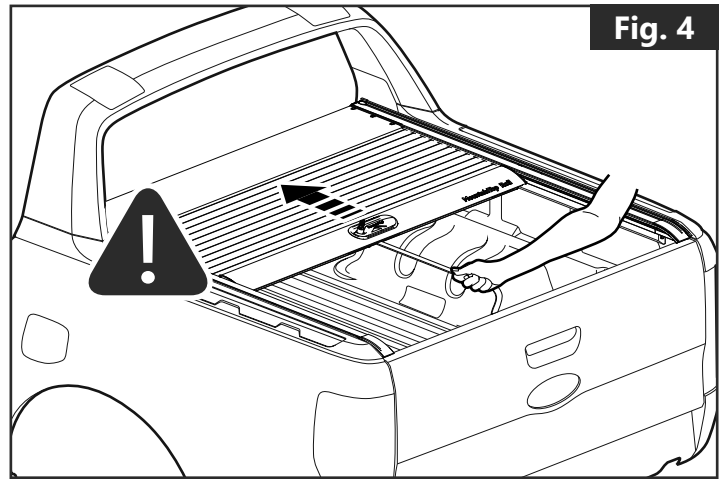

Fig. 4
- When opening the cover, the opening should be careful and controlled using the pull strap to prevent the cover from hitting the front with full speed, which it has NOT been designed for. **(Fig. 4)**